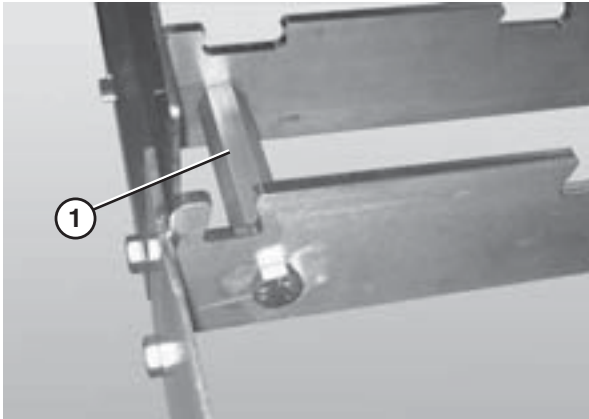

Figure 20
3. Connect the frame sections by bolting the hex post connectors (Figure 20, item 1) to the sections of frame.